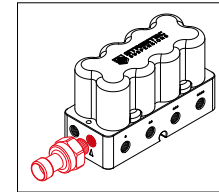

Fig. 16: Valve block
1. Mounting directly into the side connection of the valve block (Fig. 16)